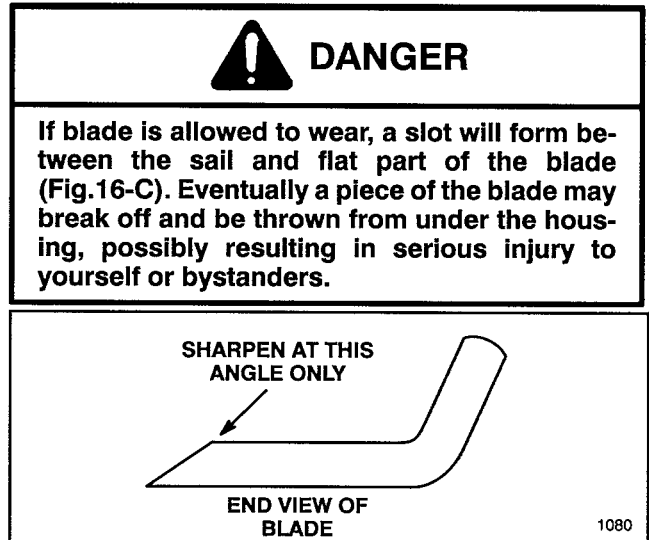

Figure 17
2. Examine cutting edges of all blade(s). Sharpen the cutting edges if they are dull or nicked. Sharpen only the top of the cutting edge and maintain the original cutting angle to make sure of sharpness (Fig. 17). The blade will remain balanced if same amount of metal is removed from both cutting edges.